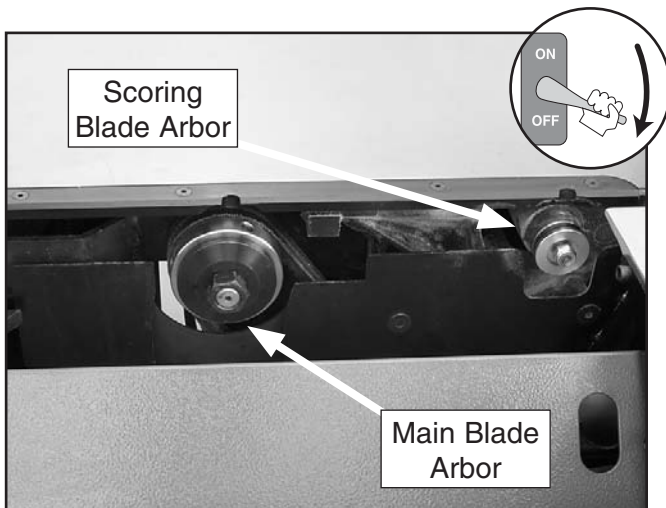

Figure 29. Main blade arbor components.
3. Slide the table all the way forward to access the blade arbor, loosen the cap screw securing the lower blade guard, slide the cap screw up, and pull open the lower blade guard (see **Figure 29**).